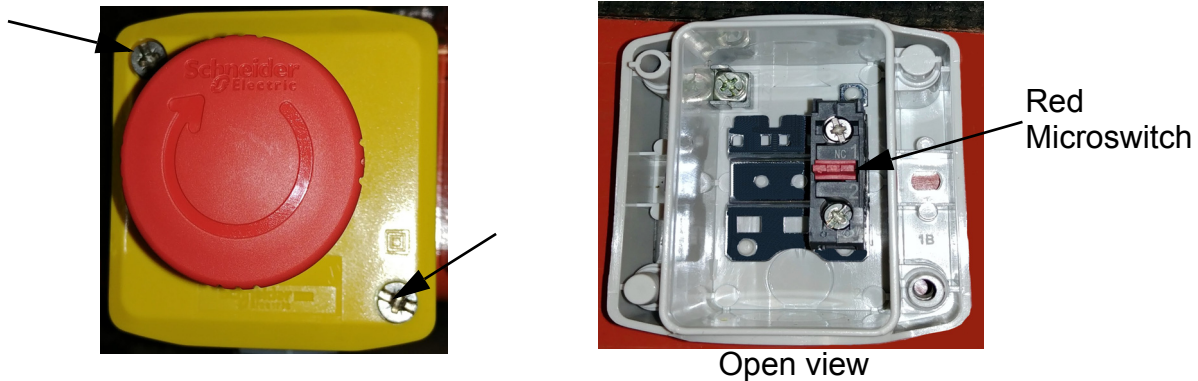

FIGURE 3
5. Unscrew front screws to open E-stop. (See Figure 3.)